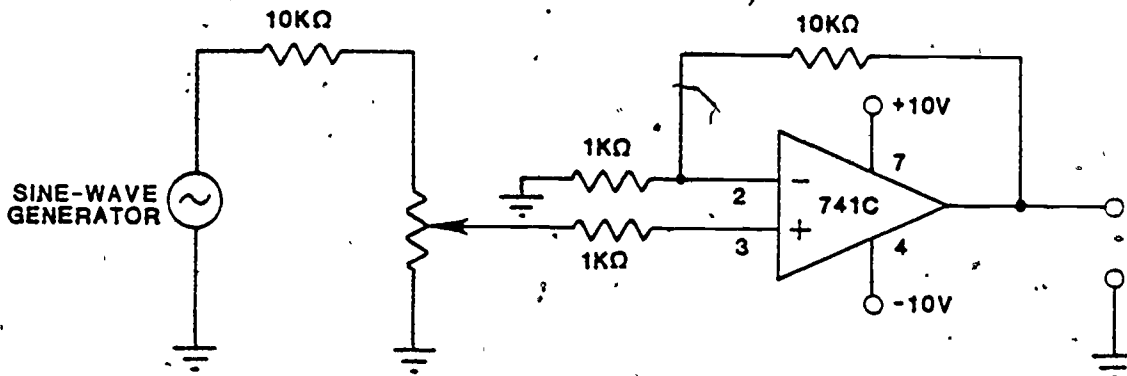

Figure 18. Noninverting Amplifier.
1. Construct the circuit for the noninverting amplifier shown in Figure 18.